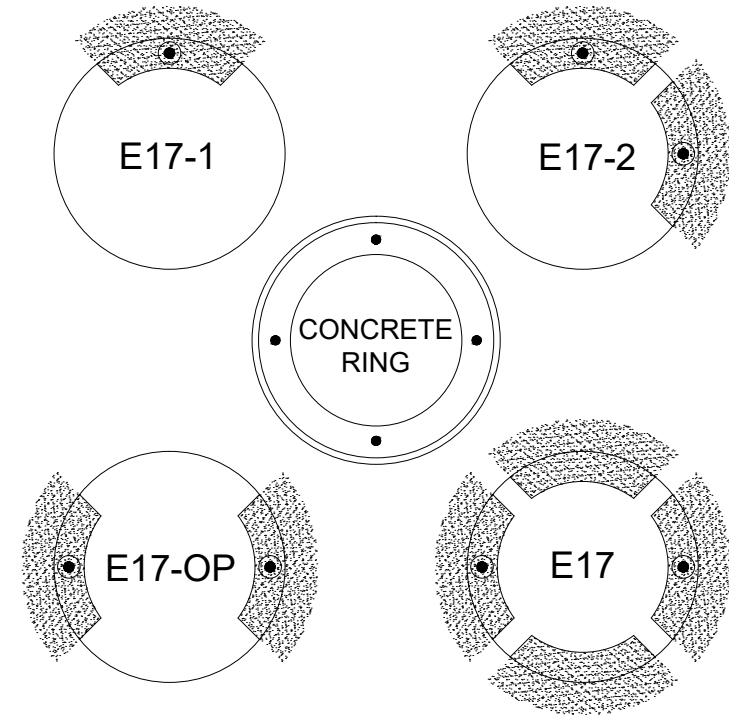

Figure 3
5. Attach 1/2" PVC conduit fitting(s) (by others). **When installing the Housing, be sure to position it so the holes in the Concrete Ring align with where the holes in the Faceplate will be when it is facing the desired position. Note that each mounting hole in the Faceplate is in the center of the light window.** Refer to Figure 3 for Faceplate/Concrete Ring alignment. Place Housing assembly into hole and join to conduit(s).